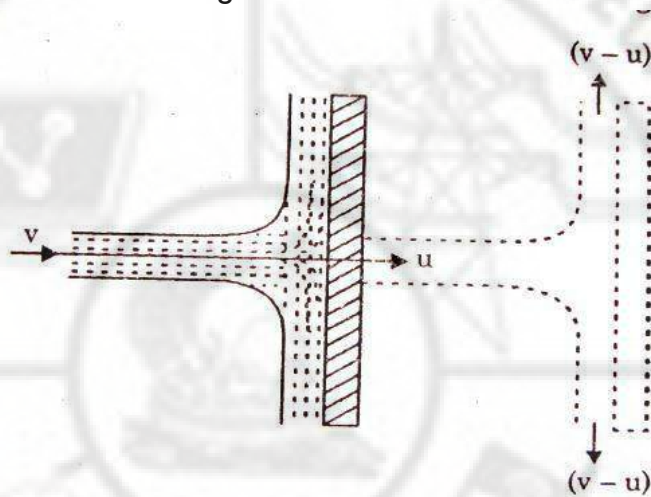

Fig.3.3
- As a result of the impact of Jet, Let the plate move in the Direction of the Jet as shown in fig 3.3